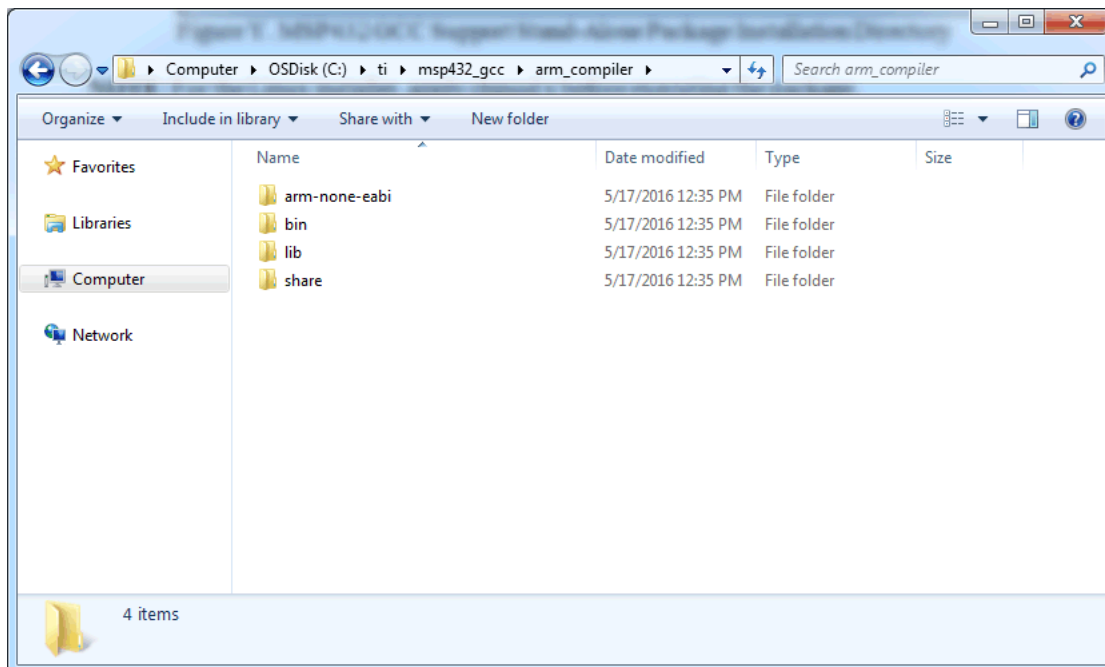

Figure 3. GCC ARM Embedded Installation Directory
3. Download the GCC ARM Embedded package and extract the archive in the MSP432 software GCC Support package (see Figure 3). The default folder is `c:\ti\msp432_gcc\arm_compiler`.